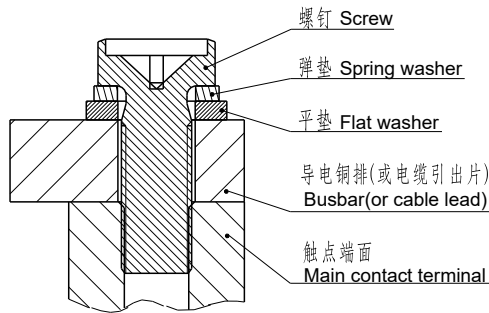

图1(Fig1)
- 9.当产品使用1个及多个导电铜排连接时，请确保导电铜排与触点端面紧密贴合（多个铜排需确保大电流的导电铜排最贴近触点端面，小电流的导电铜排其次），然后是平垫圈、弹簧垫圈、螺钉。不正确的连接顺序可能造成严重过热，参考下图1：
When the product is connected with one or more conductive copper bars, please ensure that the conductive busbars closely fit the contact terminal surface (The conductive copper bars with high current must be closet to the contact terminal surface if there are multiple copper bars and then conductive busbars with low current), followed by flat washers, spring washers and screws.Incorrect connection sequence perhaps give rise to severe overheating. Refer to Figure 1 as follows: